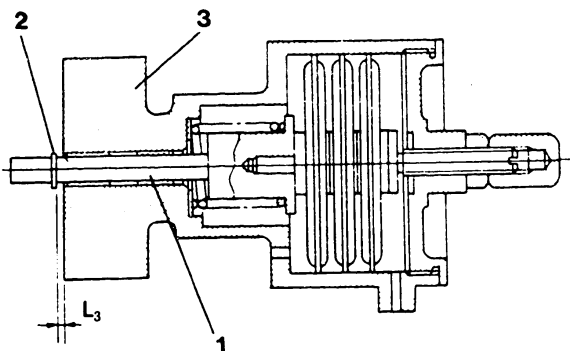

Fig. 175 Assembled dimensions of aneroid compensator
Measure the distance (dimension  $L_3$ ) between the snapping assembled with pushrod (1) and the housing. (Fig. 175) If dimension  $L_3$  is outside the specified range, adjust using the setscrew after removing the aneroid compensator capnut and loosening the locknut.